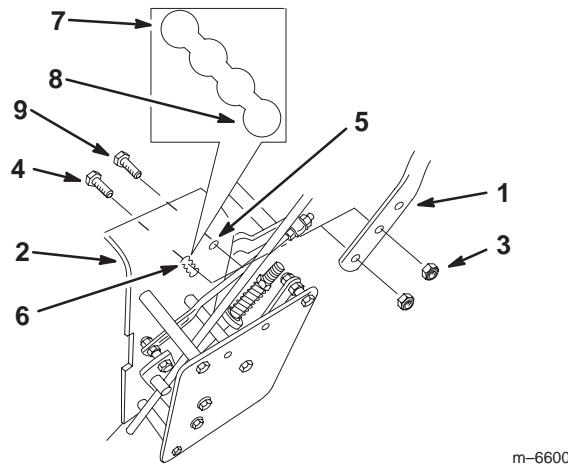

Figure 4
1. Remove the center gage wheel nut, 2 large washers, angle bracket and 1 small washer (Fig. 4). Discard the 2 large washers and the angle bracket.
1. Align handle with upper mounting holes in rear frame (Fig. 4).
2. Secure the handle at each upper mounting hole with a flange bolt (3/8 x 1-1/4 inch) and flange nut (Fig. 4).
3. Select the low position for the lower mounting hole (Fig. 4).
- Secure the handle at each lower mounting hole with a flange bolt (3/8 x 1 inch) and flange nut (Fig. 4).